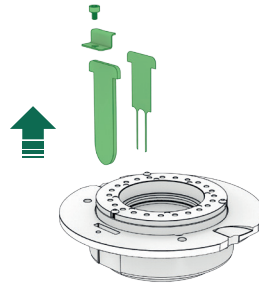

Fig. 20
**12.4.3.** Use a #3 Hex Allen key to loosen the screw securing the curtain and metal grid (optional). Then, pull upward to remove them (**Fig. 20**).